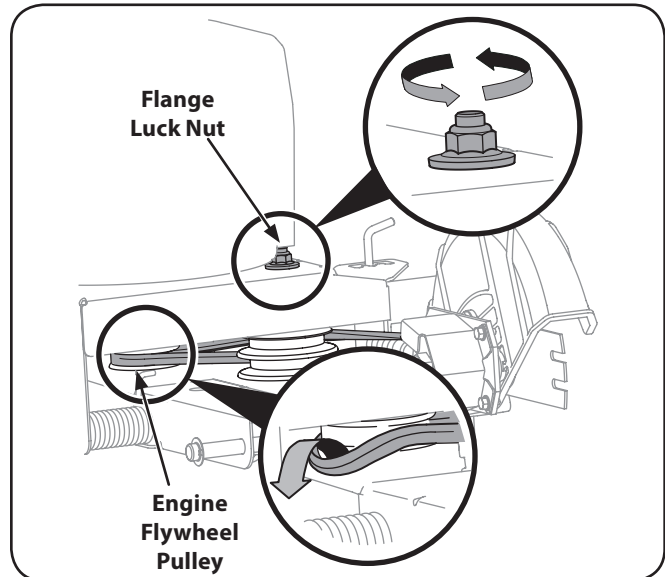

Figure 7-1
**NOTE:** To aid in reassembly, note the orientation of the drive belt on the two idler pulleys and the engine flywheel pulley prior to performing the following steps. Refer to Figure 7-1.
1. Working in front of the edger, loosen the flange lock nut on top of frame, allowing the idler pulley assembly to pivot slightly out from the frame. See Figure 7-1.
2. With your other hand, carefully reach under the rear of the edger and remove the belt from around the engine flywheel pulley. See Figure 7-1.